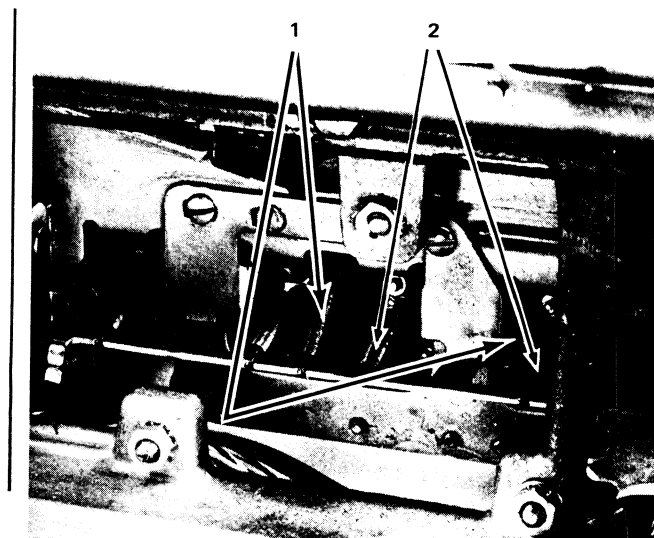

Figure 4-23. Tilt Selection Differential Removal (Rear of Printer, Motor Removed)
5. Remove the tilt-latch springs (No. 1, Figure 4-23).
6. Remove the tilt links (No. 2, Figure 4-23).